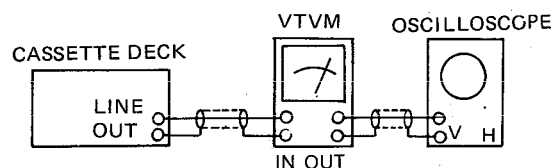

FIG. 2
- 4) CONNECT MEASURING EQUIPMENTS AS FIG. 2.